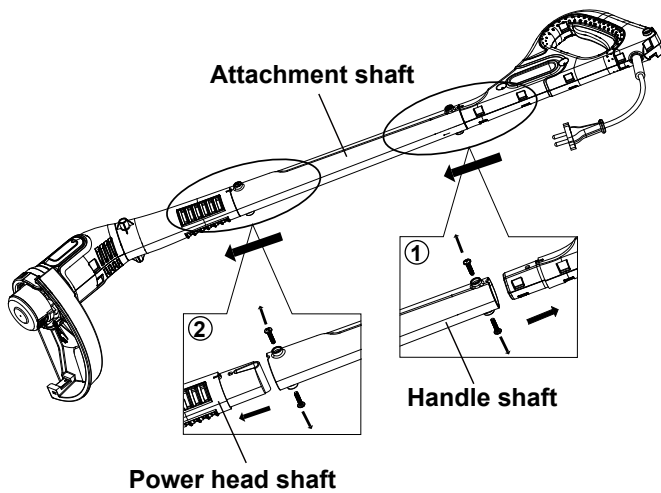

Fig. 3
3. Take the power head shaft and handle shaft away after removing four screws(Fig. 3).